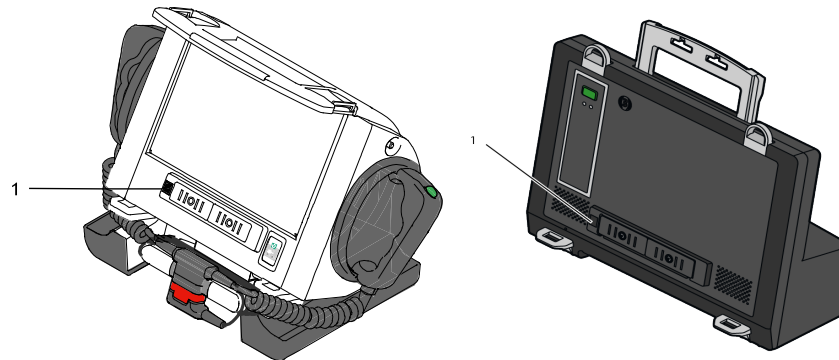

Fig. 10-6 Defibrillator/Pacer, infrared interface
6. Wipe the infrared interface of the defibrillator/pacer with a cloth (see Fig. 10-6, item 1).